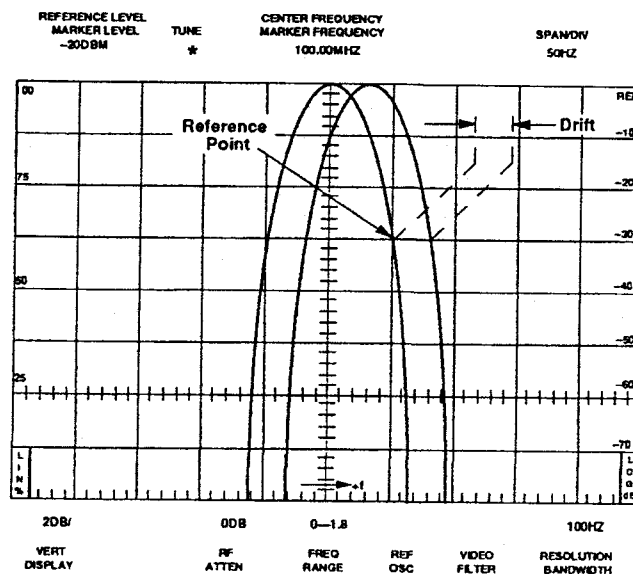

Figure 4-4. Center frequency drift with 1st LO locked.
d. Tune the CENTER FREQUENCY to establish a reference at the intersection of two graticule lines and activate SAVE A. See Figure 4-4.
f. Observe the drift of the displayed signal in relation to the reference for 60 seconds. See Figure 4-4.